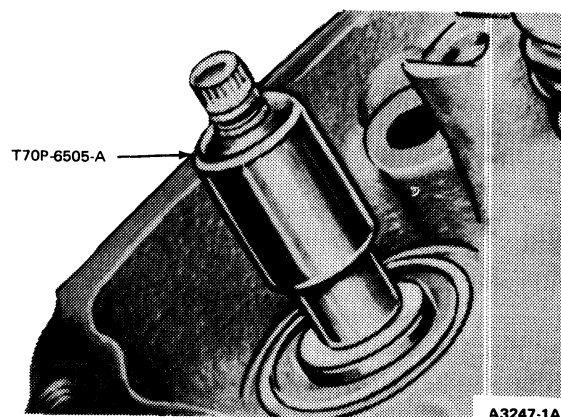

FIG. 47 Removing Valve Stem Burrs
4. Remove the spring retainer, spring and stem seal. Discard the valve stem seals. **Remove any burrs from the valve stem with Tool T70P-6505-A as shown in Fig. 47 to prevent damage to the valve guide bore. Remove the valve. Identify all valve parts.**